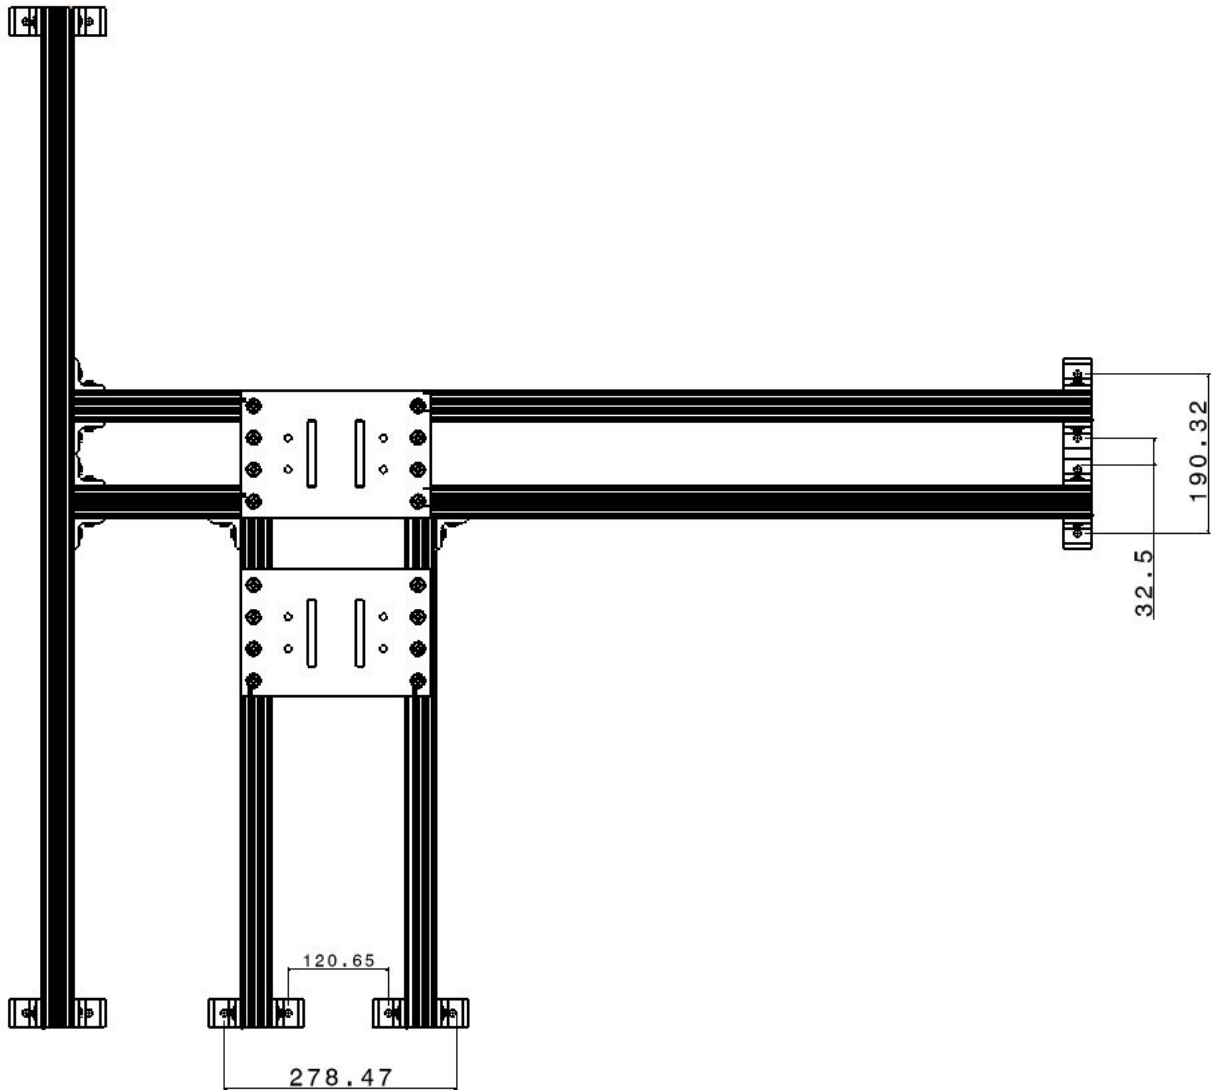

Fig. 3.16: Assembled two-axis railing system
- ❑ Once inserted, the assembled railing system will look similar to Fig. 3.16.
- ❑ In Fig. 3.16 dimensions are just nominal. You can put this railing system on the floor and fix it with the your own holes on the floor or the plywood.